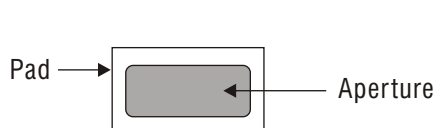

Figure 1
- ➔ Aperture width reductions must be taken equally from each side so that aperture is centered on the pad. (Fig 1.). Aperture lengths can be reduced by similar dimensions to reduce the potential of solderballing.